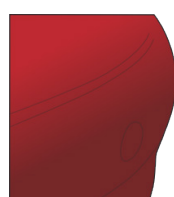

Figure 21
- › The application is finished. (FIG. 21)